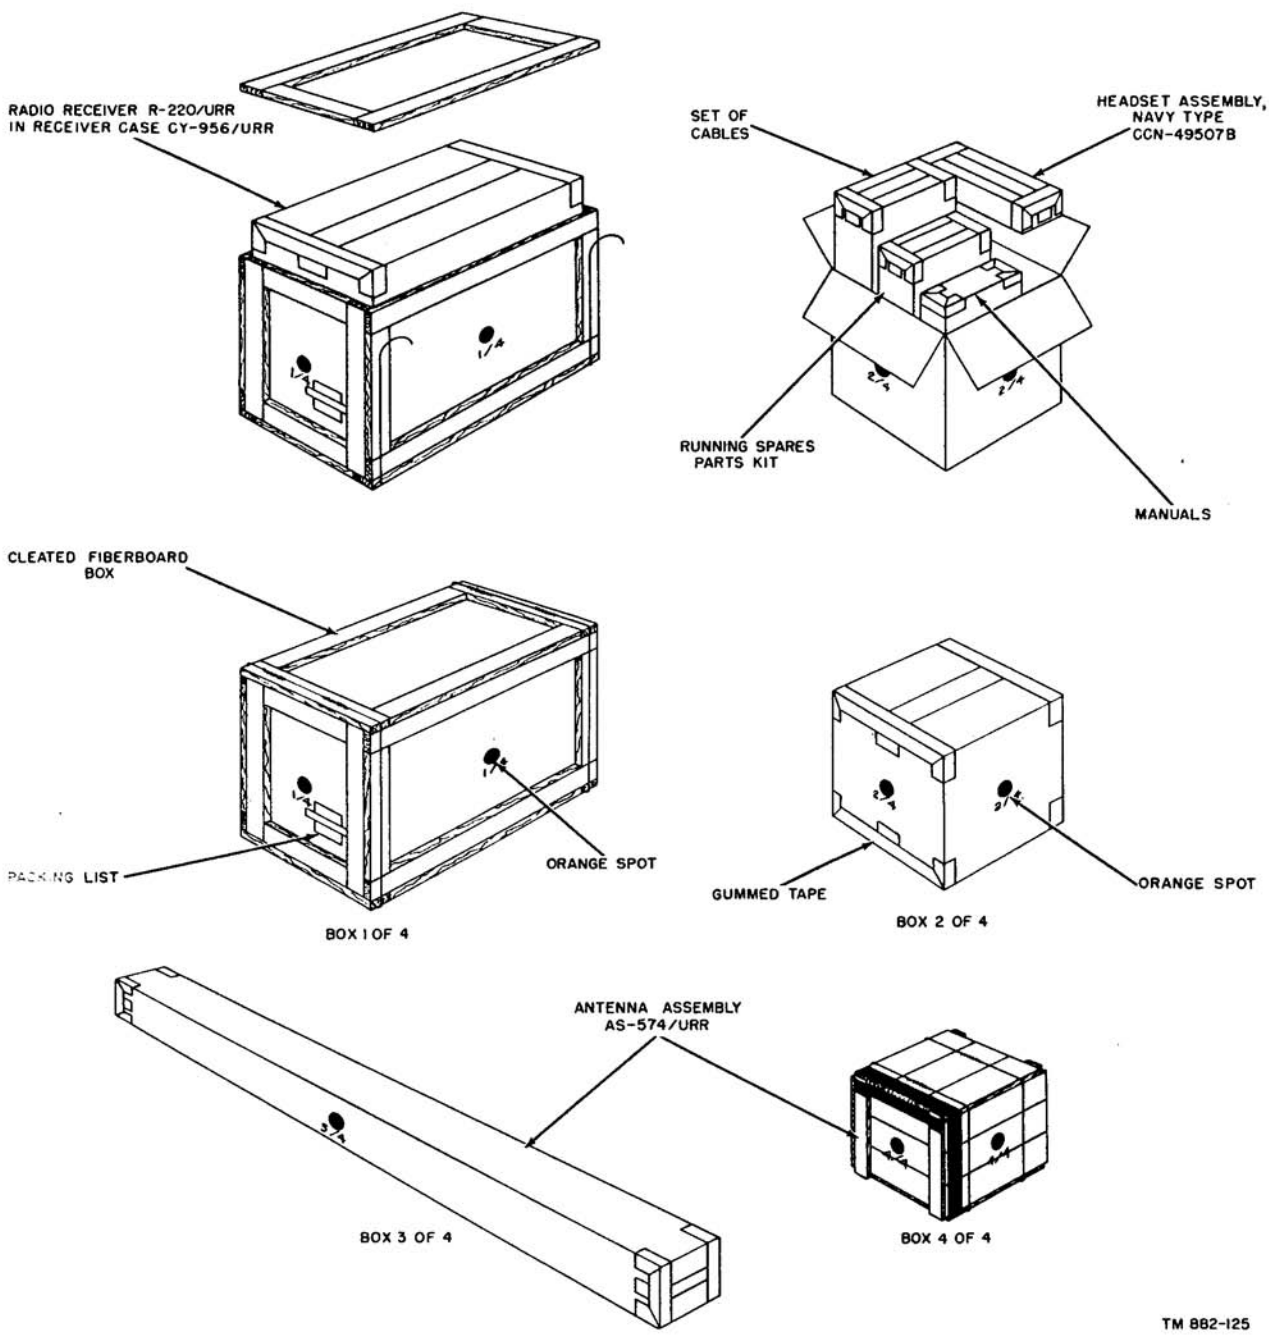
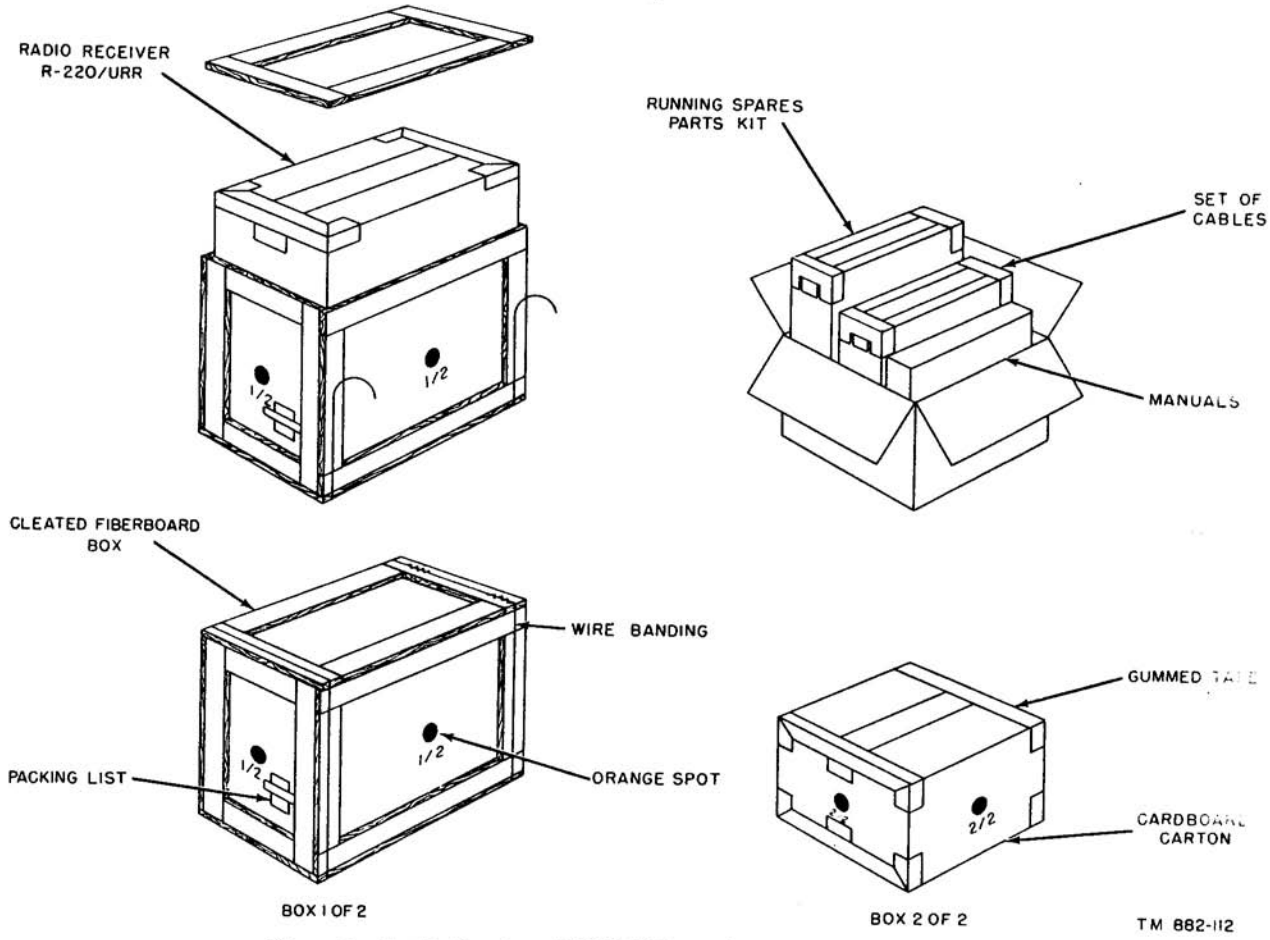

Figure 7. Radio Receiving Set AN/URR-29, packed for domestic shipment.
Figure 8. Radio Receiver R-220/URR, packed for domestic shipment.
*c. Domestic Packing.* A domestic shipment of Radio Receiving Set AN/URR-29 is packed in four containers (fig. 7) as follows: a cleated fiberboard box containing Radio Receiver R-220/URR and Receiver Case CY-956/URR; a cardboard carton containing Power Cable Assembly CX-2639/U, Headset Assembly Navy Type CCN-49507B with Headset Extension Cord CCN-49534A, running spare parts and the manuals; a cardboard carton containing mast sections and dipoles for Antenna Assembly AS-574/URR; and a wooden crate containing accessories for the antenna assembly. Radio Receiver R-220/URR is packed for domestic shipment in two containers (fig. 8). One of these is a cleated fiberboard box containing Radio Receiver R-220/URR. The other is a cardboard carton containing Power Cable Assembly CX-2639/U, running spare parts, and manuals.
(2) *Domestic shipment, Radio Receiving Set AN/URR-29 (fig. 7).*
(4) Domestic shipment, Radio Receiver R-220/URR (fig. 8).